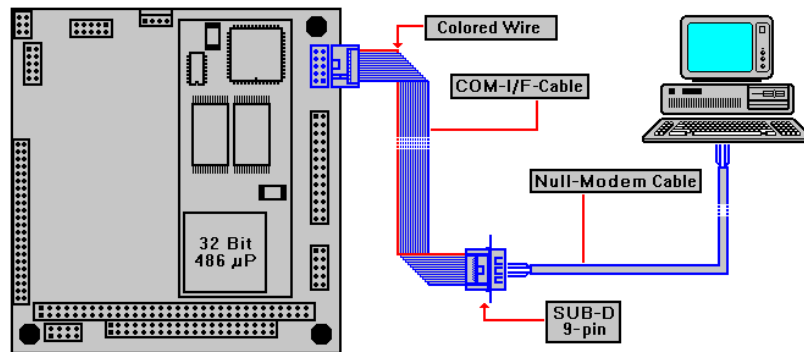

Figure 6: Installation of the Null-Modem cable
- Figure 6: Installation of the Null-Modem cable